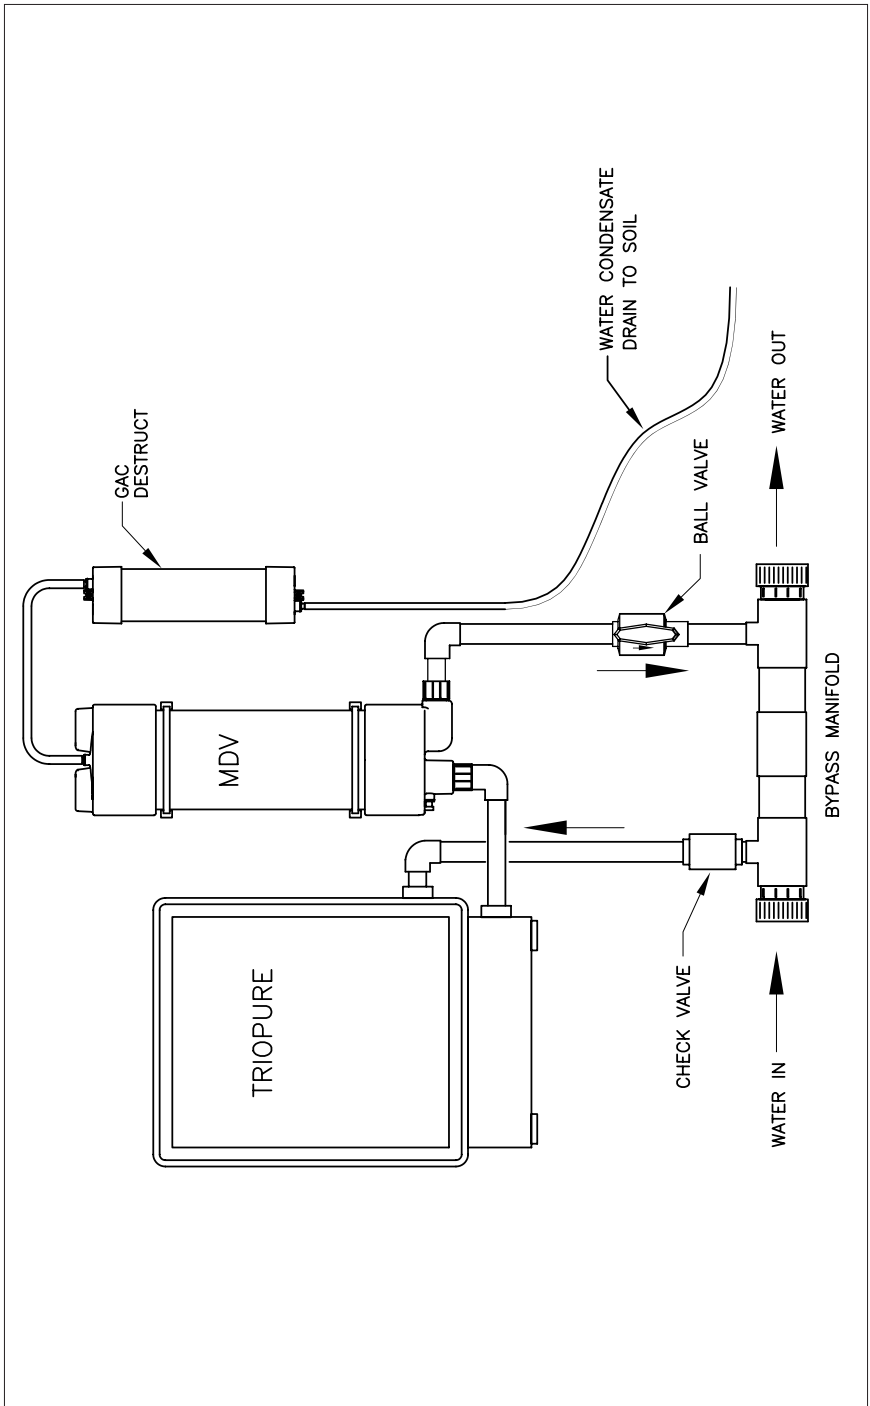

Figure 3
Installation (refer to Figure 3):
4. Plumb the TrioPure and MDV to the pool return line as indicated in Figure 3 and in conjunction with Figures 1-9 in the TrioPure manual. Wrap all threaded fittings with 2 layers of Teflon tape.
1. After completing the Electrical and Adding Pool Preparation Sections of the TrioPure manual, begin with the ball valve in the wide open position (as shown in figure 3). Follow the TrioPure's manual system start-up instructions. After running the TrioPure for 10 minutes, turn off the pool's main circulation pump, and allow the TrioPure to run on its own. At this point water will be flowing through the MDV, but not filling up the tower.